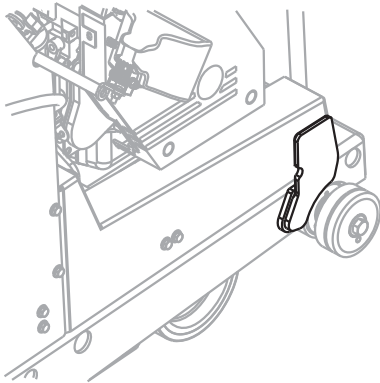

Figure 16. Tapered Mounting Clip
1. Slide the blade guard straight downward to engage the tapered mounting clip (Figure 16).